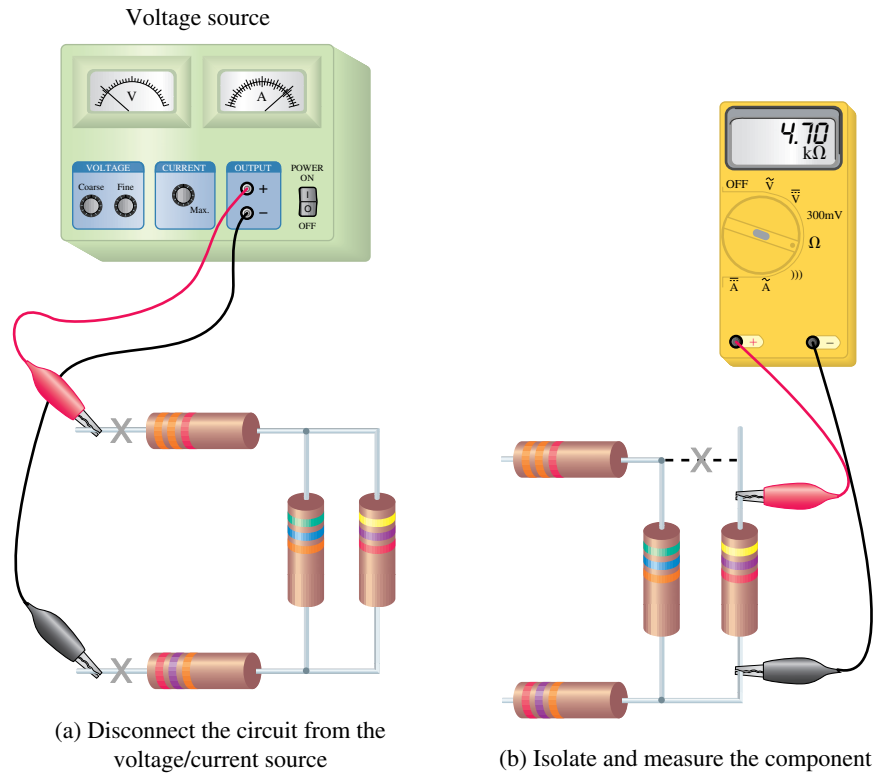

FIGURE 3-19 Using an ohmmeter to measure resistance in a circuit.
1. As shown in Figure 3-19(a), remove all power supplies from the circuit or component to be tested. If this step is not followed, the ohmmeter reading will, at best, be meaningless, and the ohmmeter may be severely damaged.
2. If you wish to measure the resistance of a particular component, it is necessary to isolate the component from the rest of the circuit. This is done by disconnecting at least one terminal of the component from the balance of the circuit as shown in Figure 3-19(b). If this step is not followed, in all likelihood the resistance reading indicated by the ohmmeter will not be the resistance of the desired resistor, but rather the resistance of the combination.
- As shown in Figure 3-19(b), connect the two probes of the ohmmeter across the component to be measured. The black and red leads of the ohmmeter may be interchanged when measuring resistors. When measuring resistance of other components, however, the measured resistance will be dependent upon the direction of the sensing current. Such devices are covered briefly in a later section of this chapter.